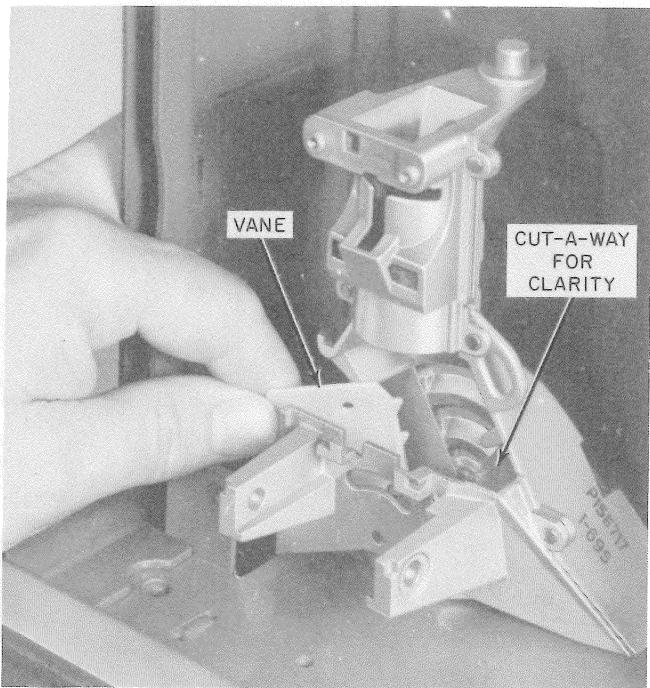

Fig. 3—Inserting Vane
- (2) Position vane in hopper (Fig. 3) through left side opening and grasp with long nose pliers (Fig. 4).